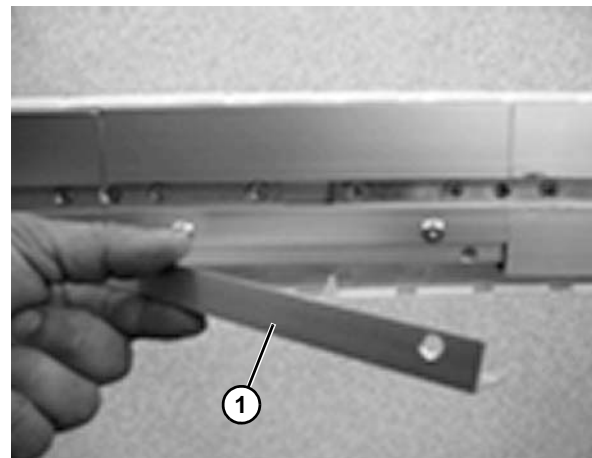

Figure 57
2. Remove the flange (Figure 57, item 1) so that the chain becomes accessible.